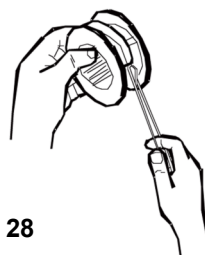

FIG. 28
8. Cut a new 19-1/2 ft. trimming line with a diameter of 2 mm. Form a loop at the middle of the line and insert this loop into the hook on the spool (Fig. 28).
11. Screw the bumper (38) anti-clockwise until it is completely and safely locked.
12. Remove the spindle lock rod (41).